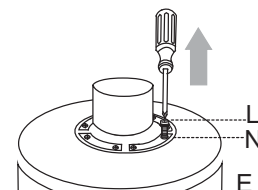

Fig. 5
5 Remove motor screws (L) and lock washers (N) from underside of motor. If necessary, discard plastic pieces. [Fig. 5]